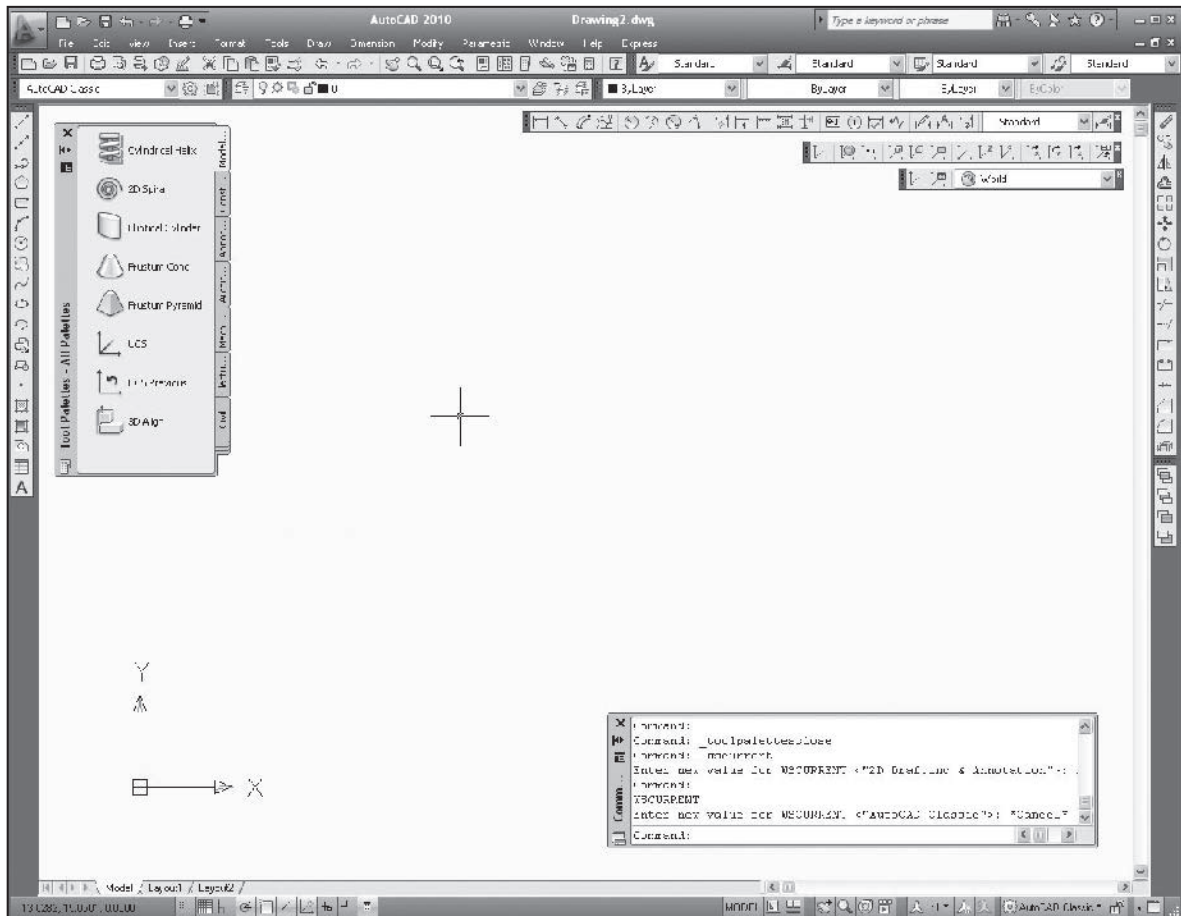

Fig. 3-12
3. Starting in the **AutoCAD Classic** workspace, rearrange the AutoCAD window so that it is similar to the one in Fig. 3-12.